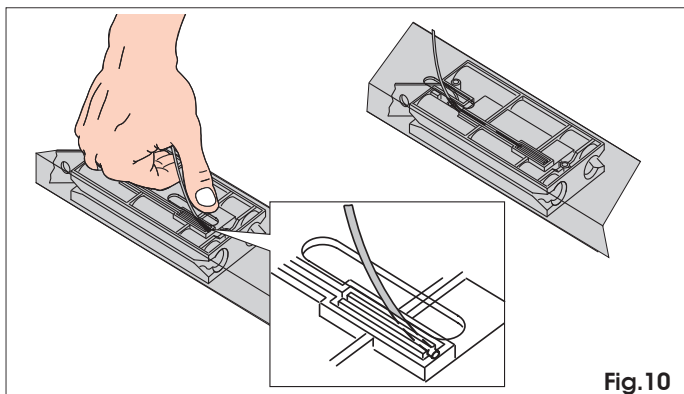

Fig. 10
- 2) Fit the cable terminal on the red seat (Fig. 10).